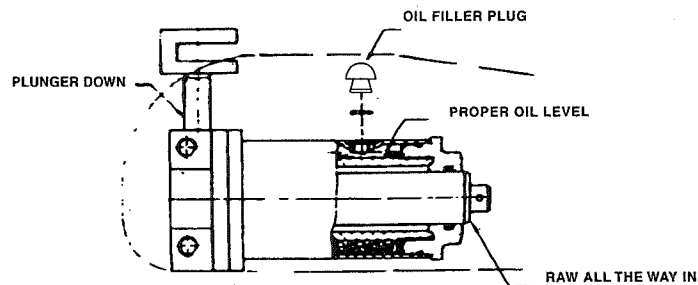

FIG. 4
- Check ram and pump plunger (see Figs. 4 and 5) every few months for any signs of rust or corrosion. Clean as needed and wipe with an oily cloth.